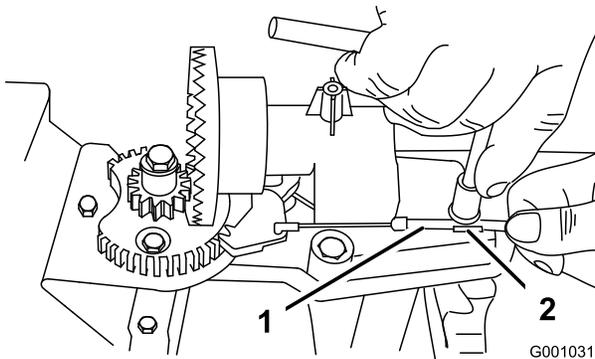
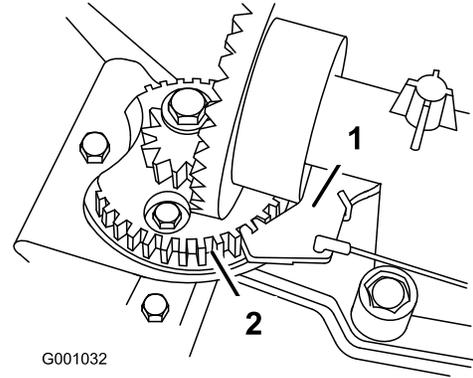

Figure 40
Figure 41
2. Loosen the bolt on the cable clamp (Figure 40).
3. Grasp the cable conduit and move it toward the front of the machine until the discharge-chute latch fully engages the gear teeth (Figure 40 and Figure 41).
Note: The latch is spring loaded and naturally moves into the teeth of the gear (Figure 41).